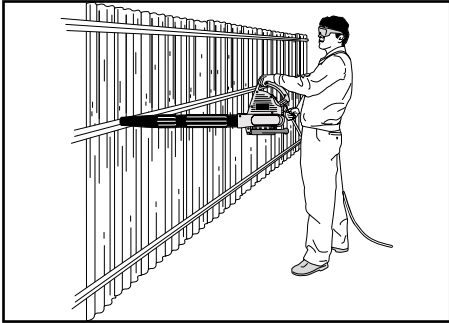

Fig. 18
- Use the blower for walls, overhangs and screens (Fig. 18).